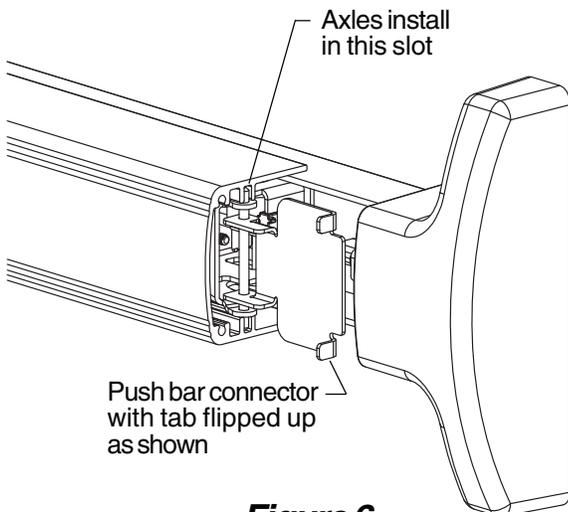

Figure 6
- 6** Reinstall pushbar onto device with axles in place and push bar connector flipped up as shown (Figure 6).